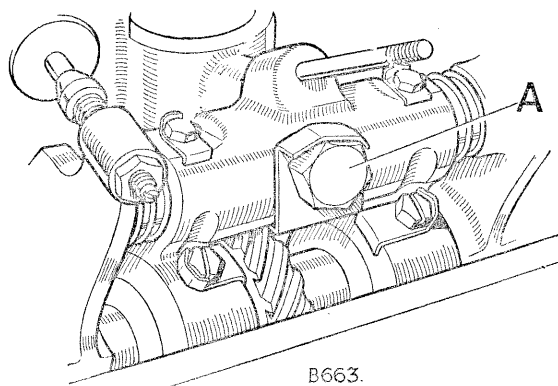

Fig. A-1—Distributor housing location bolt
1. Remove the hollow bolt locating the distributor housing. Withdraw the distributor housing, and remove oil pump drive shaft. Fig. A-1.